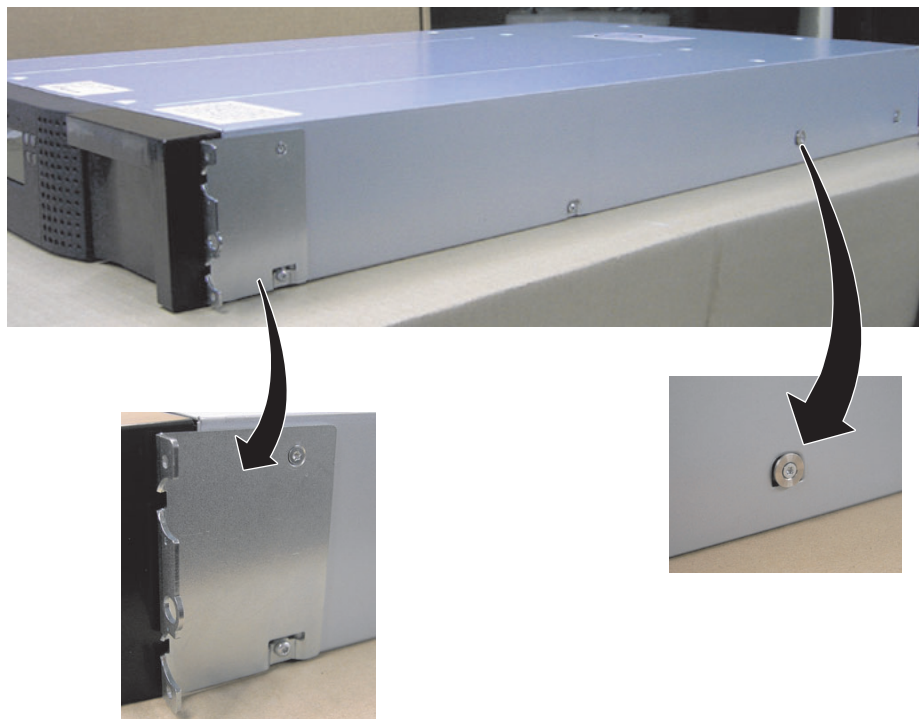

Figure 4. Install the anchors and mounting brackets
- f. Install the autoloader rack anchors and mounting brackets as shown in Figure 4 on page 7.